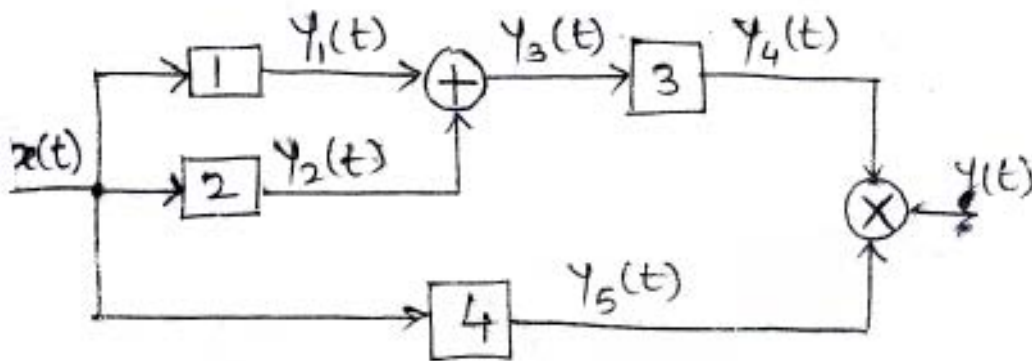

Fig. 1
3. b) Express the output $y(t)$ as a function of the input and the system transformations, for the system of figure. 1 6